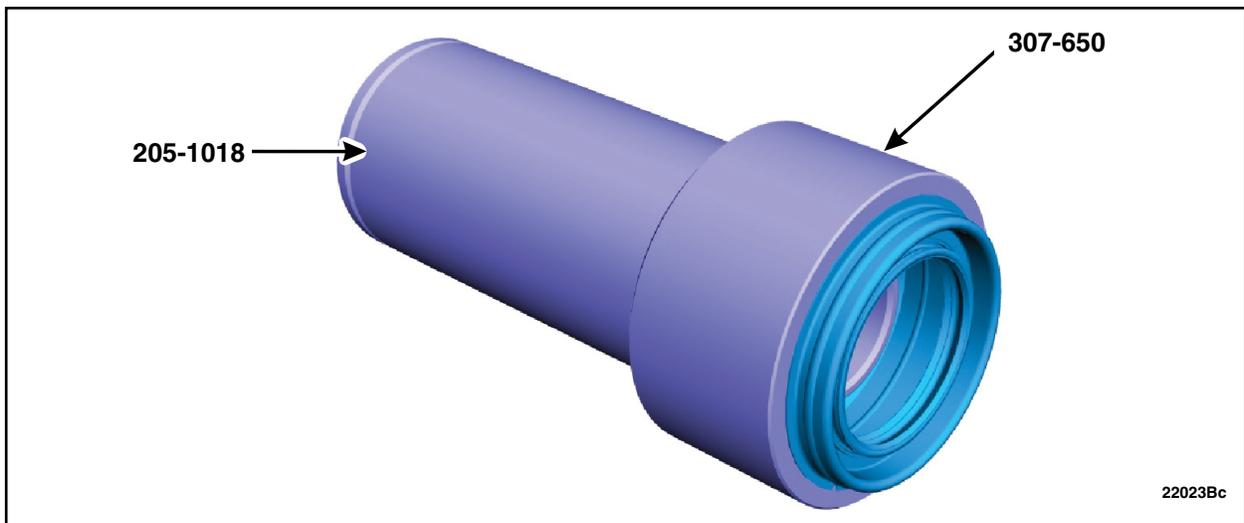

FIGURE 70
81. Position a *new* output shaft seal on the Special Service Tool: 205-1018 Installation Tube., 307-650 Installer, Output Shaft Seal. See Figure 70.